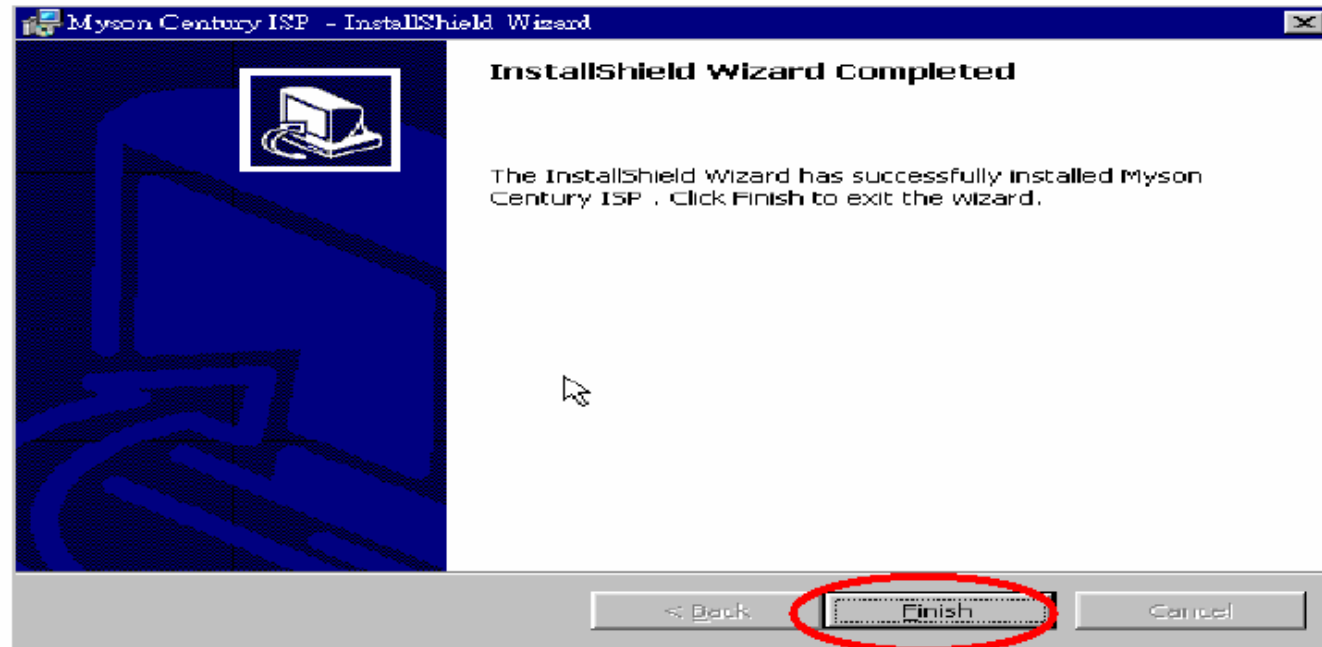

Fig. 1.7
1.7 Installation has finished , press “ Finish “ button , see Fig 1.7 .